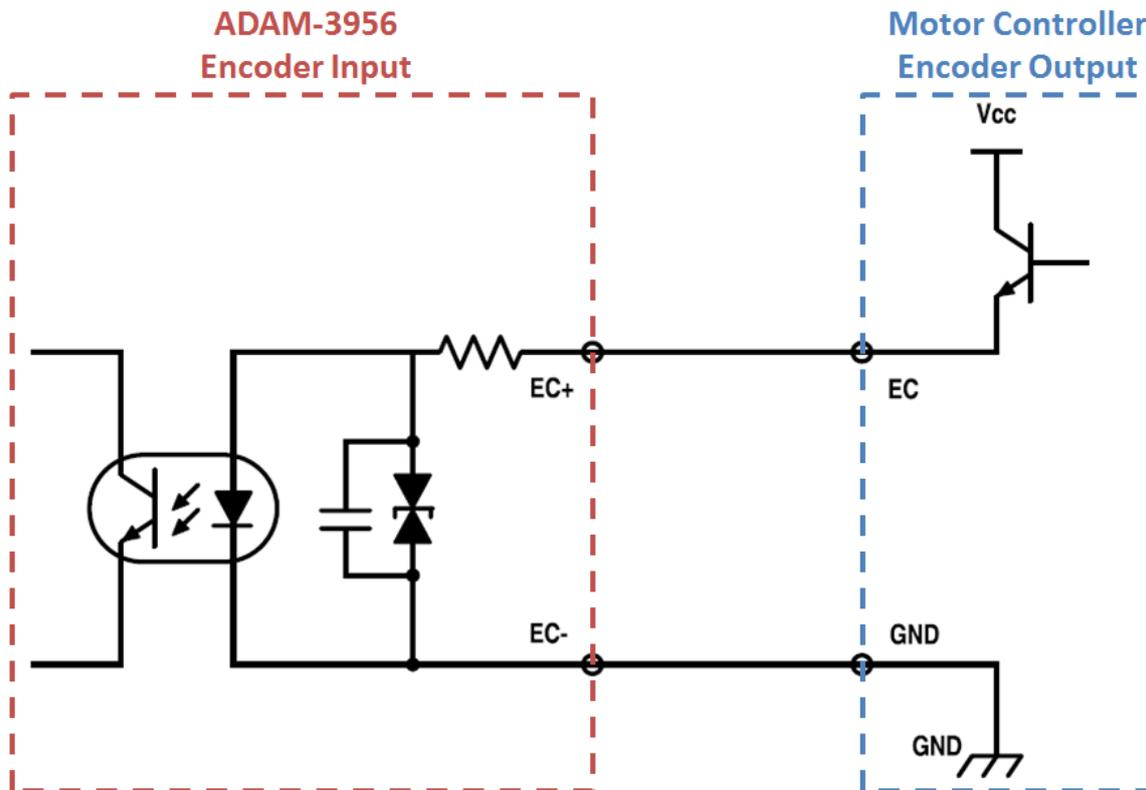

Figure 1. The diagram of encoder wiring connection for one channel (encoder A or B or Z)
1. Motor controller has own voltage (Vcc / V+) inside (Common Anode, CA). The Figure 1 shows circuit for one channel. (EC: Encoder Signal; EC+/-: ECA+/-, ECB+/-, ECB+/-)